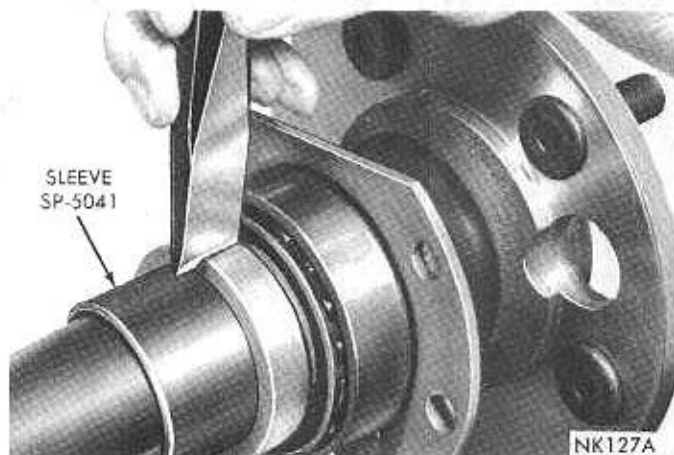

Fig. 6—Notching Bearing Retainer Collar
(1) Position axle shaft bearing retaining collar on a heavy vise or anvil and using a chisel, cut deep grooves into retaining collar at 90° intervals (Fig. 6). This will enlarge bore of collar and permit it to be driven off of axle shaft.